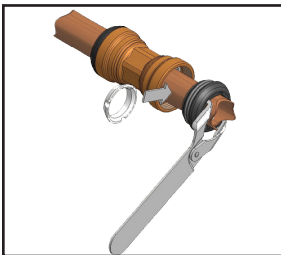

FIGURE 3
2. Pull the end cap away from the fitting body and place the removal ring around the tube with the tapered end of the removal ring toward the grab ring (Fig. 3).